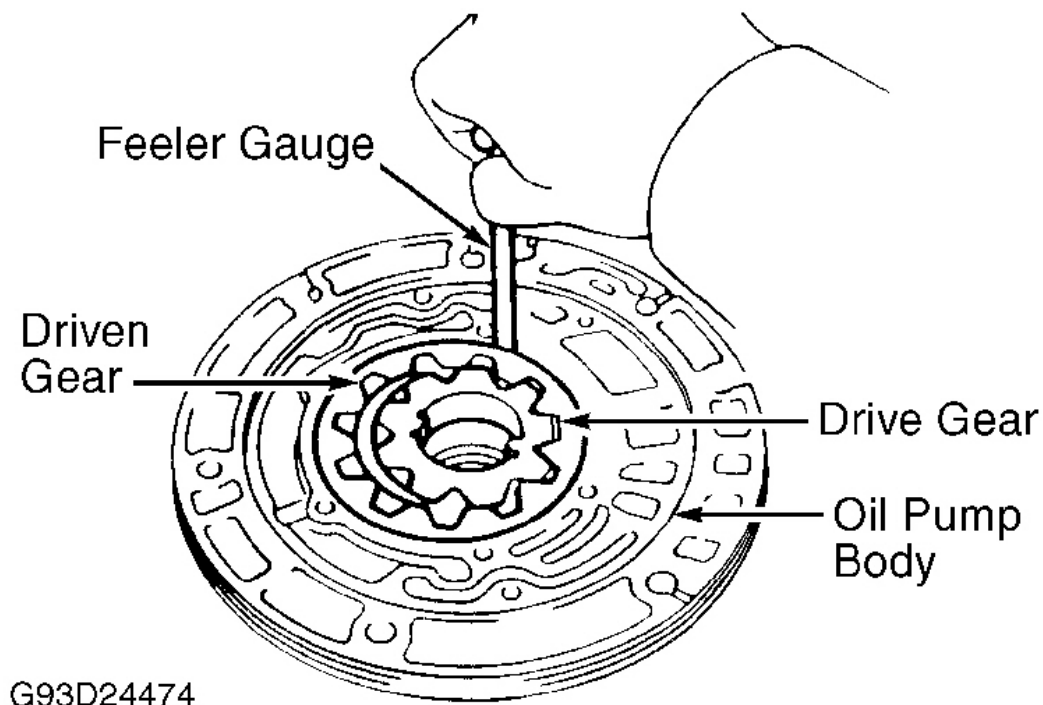

Fig. 15: Checking Oil Pump Driven Gear Clearance
1. Clean all parts with solvent. Use compressed air to ensure oil passages are clear. Install oil pump gears into pump body. Check driven gear-to-body clearance. Push driven gear against one side of pump. Using a feeler gauge, measure clearance between driven gear and pump body. See **Fig. 15** . Replace pump body if clearance is not within specification. See **OIL PUMP CLEARANCE SPECIFICATIONS** table.